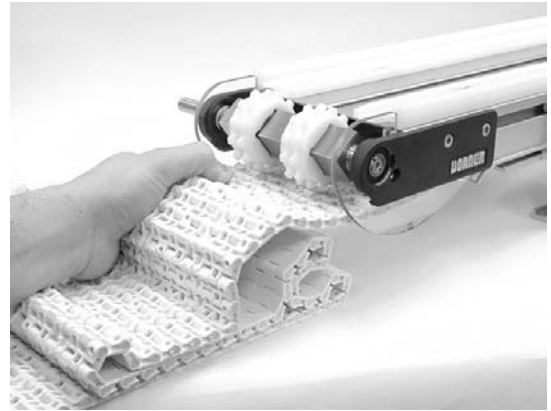

Figure 20
5. Remove belt by pulling belt out of bottom wear strips. See Figure 20.